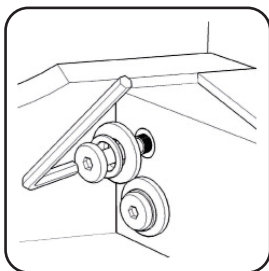

Figure 4
Attach Back Frame (F) to unit with Flat Washers, Spring Washers, Head Cap Bolts (short) and Head Cap Bolts (long), tightening bolts only halfway. (See Figures 4 and 5)